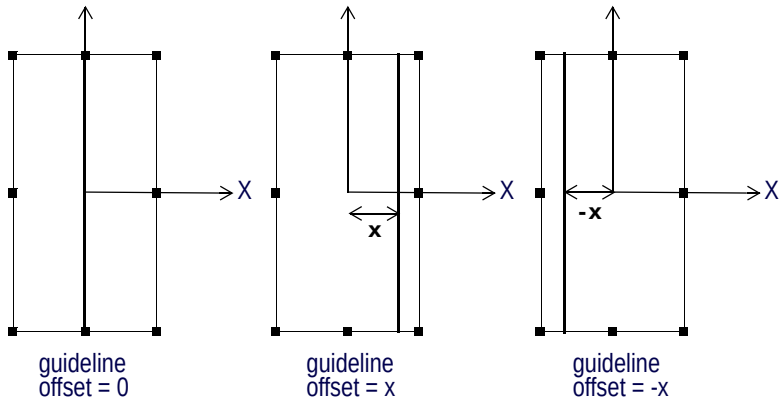

Figure 356 Line Finder — Guideline Offset
- See Figure 356 for an illustration of positive and negative **Offset** values.